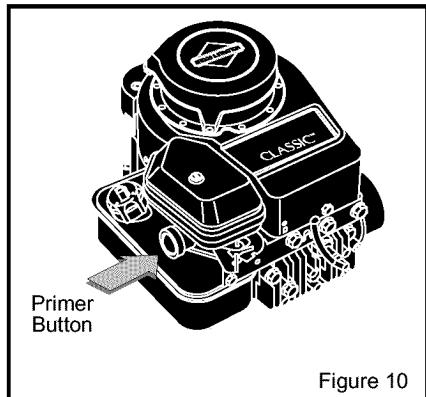

Figure 10
5. When starting a cold engine, push the **primer button** three times. Wait approximately two seconds between each push. See Figure 10.